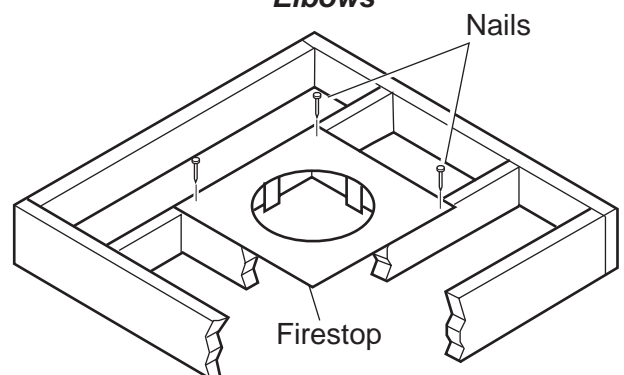
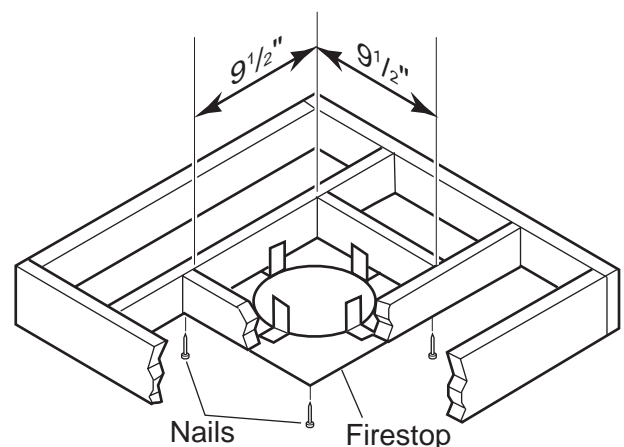

Figure 31 - If Area Above is a Room, Install Firestop above Framed Hole as Shown
Figure 32 - If Area Above is Not a Room, Install Firestop above Framed Hole as Shown
1. Cut a 9 $\frac{1}{2}$ " (241 mm) square hole in the ceiling using the locating hole as a center point. The opening should be framed to 9 $\frac{1}{2}$ " x 9 $\frac{1}{2}$ " (241 mm x 241 mm) inside dimensions as shown in *Figure 32* using framing lumber the same size as the ceiling joist. If the area above the ceiling is an insulated ceiling or a room, nail firestop from the top side. This prevents loose insulation from falling into the required clearance space. See *Figure 31*. Otherwise, install firestop below the framed hole. See *Figure 32*.
2. Cut the hole 1/8" larger than the support box outline. See Figure 32.
3. Lower the support box through the hole in the roof until the bottom of the box extends at least 2" below the ceiling. See Figure 32. Align the support box vertically and horizontally using a level. Temporarily tack the support box in place through the inside walls and into the roof sheathing.